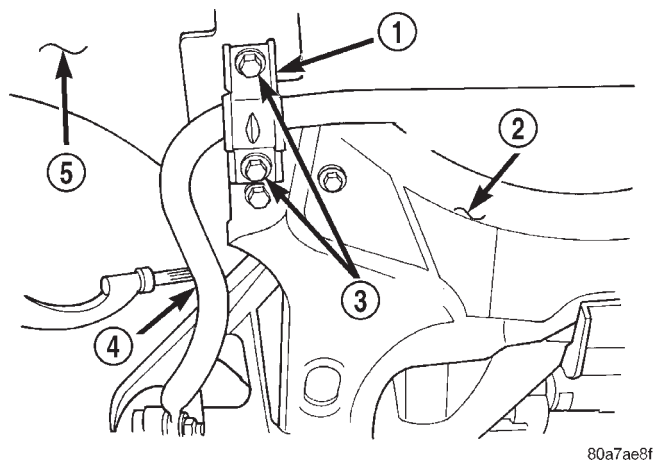

Fig. 14 Stabilizer Bar Bushing Clamp Attaching Bolts
(11) Remove the stabilizer bar bushing clamp to body attaching bolts only (Fig. 14). The sway bar bushing clamp to front suspension crossmember bolts (Fig. 14) do not need to be removed.